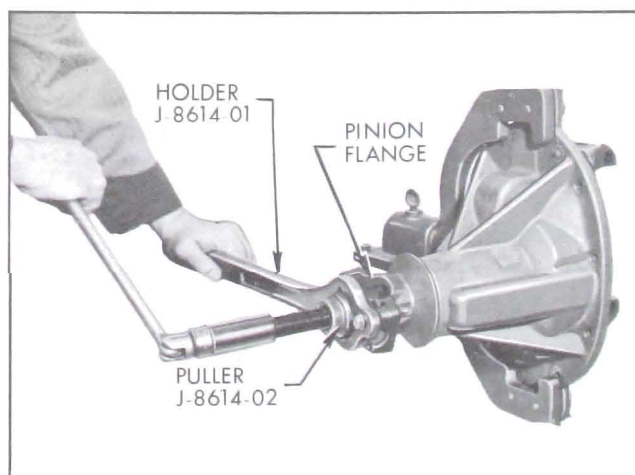

Figure 6-14—Removing Pinion Flange
4. Pull pinion flange from pinion using Puller J-8614-02 in Holder J-8614-01. To install puller, back out puller screw, insert puller through holder and rotate 1/8 turn. See Figure 6-14.